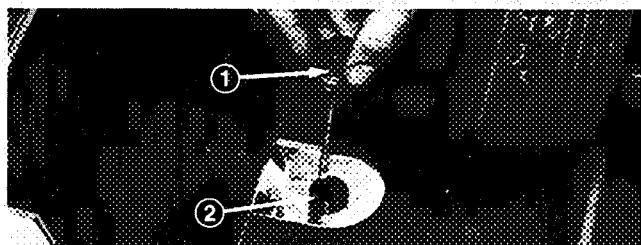

Figure 10
2. Remove dipstick cap (Fig. 10) from filler neck and wipe it with a clean rag. Screw dipstick cap finger-tight onto filler neck; then remove it and check level of fluid. If level is not within 1/2 inch (13 mm) from the groove in the dipstick (Fig. 10), add fluid to raise level to groove mark. Do not overfill. Use proper SAE weight oil or transmission fluid that is in hydraulic system.